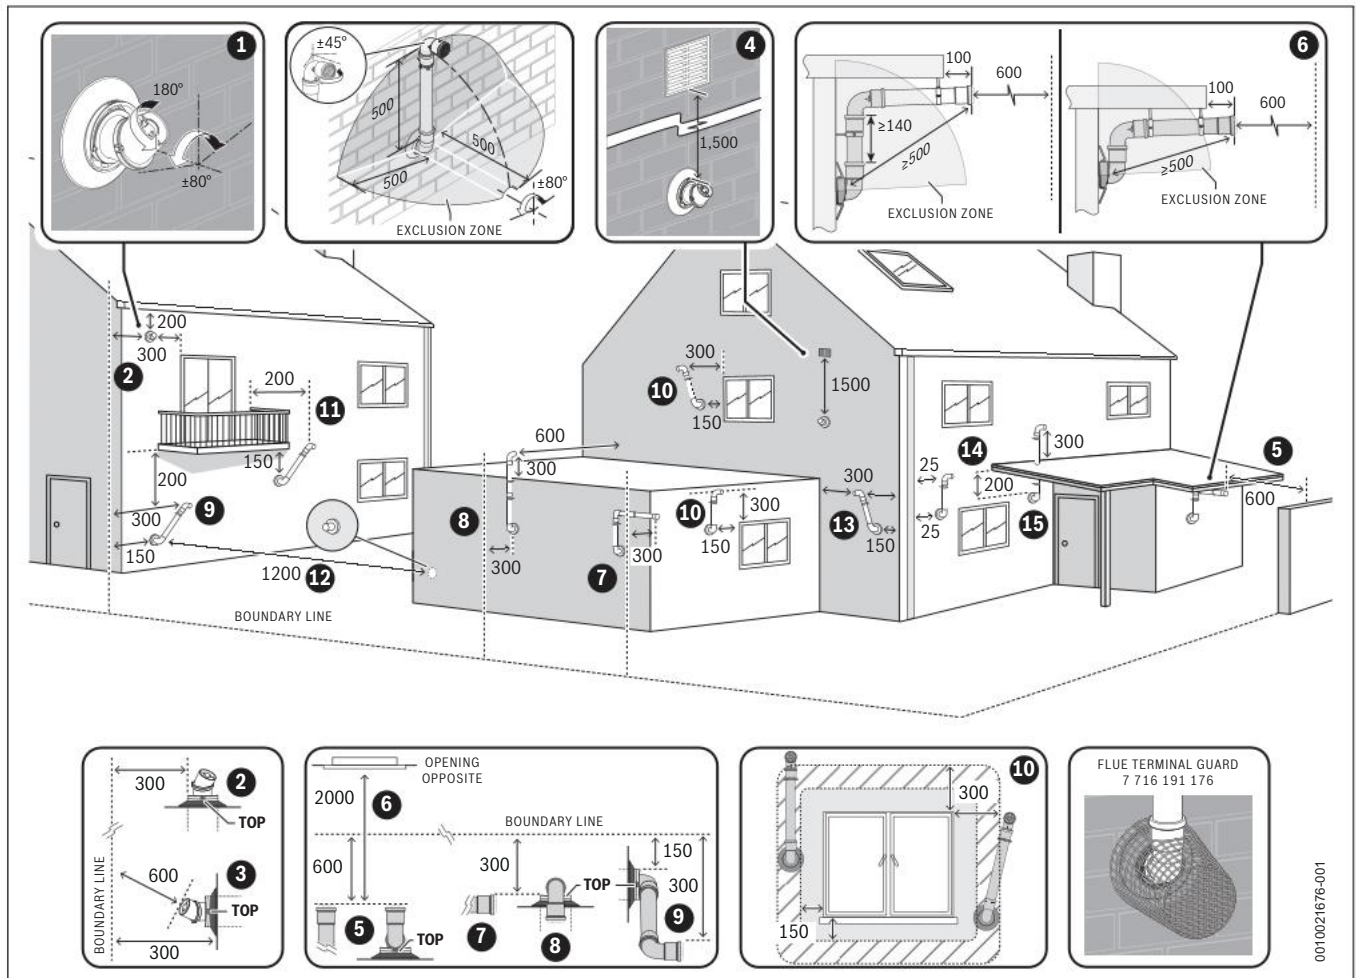

Fig. 30 Plume re-direct and plume management terminal positions
- ▶ Refer to "Horizontal flue terminal positions" for all concentric flue terminal positions unless the flue position is specified in figure 30 "Plume re-direct and plume management terminal positions".
Key to figure 30**- Plume re-direct terminal positions:**
Key to figure 30**- Plume management terminal positions:**